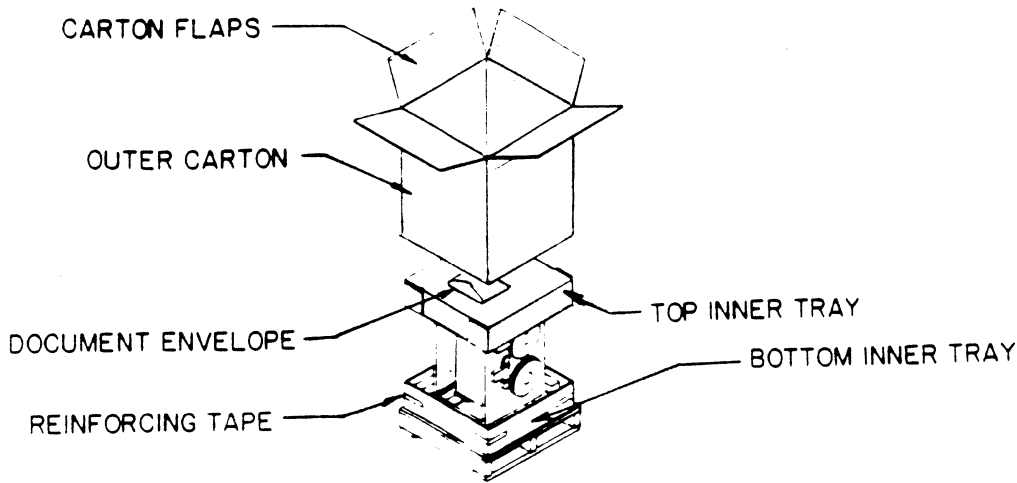

Figure 3-1. STU Packaging
Each STU is packed in a 275-pound tested, double-wall corrugated container, 26.0 inches by 24.6 inches by 36.0 inches high, with inner protective packaging as shown in figure 3-1. The STU should be unpacked in the area or room where it will be installed, and because of the weight (approximately 170 pounds packaged), requires two people. Perform unpacking as follows:
1. Cut and remove strapping. Cut reinforcing tape on top of outer carton. Open (4) flaps and remove document envelope (refer to figure 3-1).
3. Remove top inner tray by lifting up and off (refer to figure 3-1).